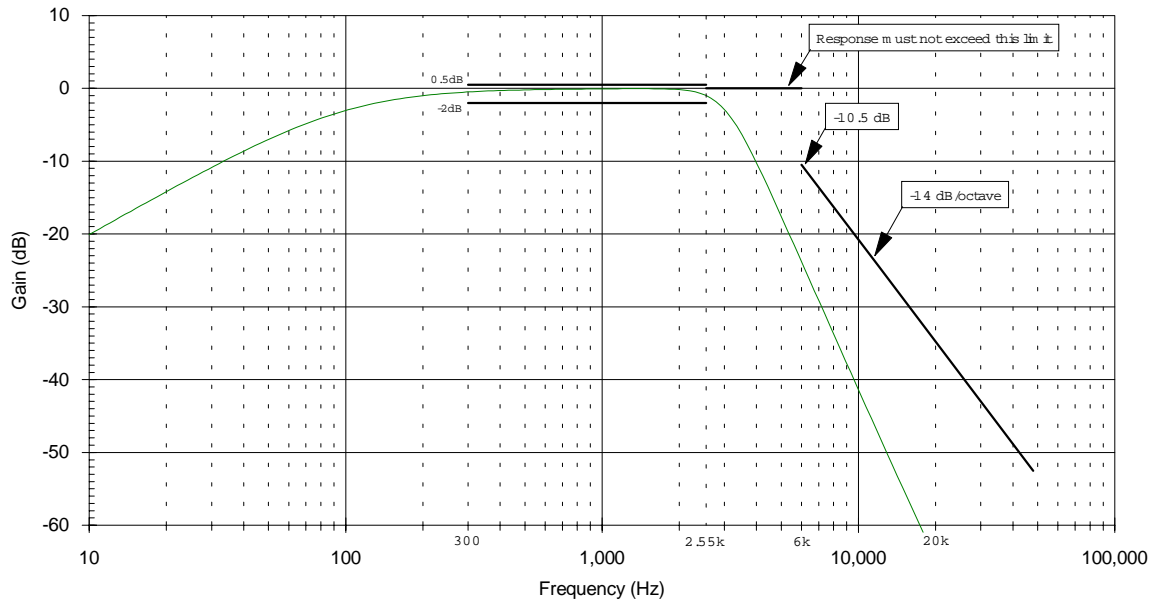

Figure 10a Overall Audio Frequency Response for 12.5kHz Channel Separation
- Between MIC or AMP1 inputs to Modulator and Audio outputs, see Figures 10a and 10b.